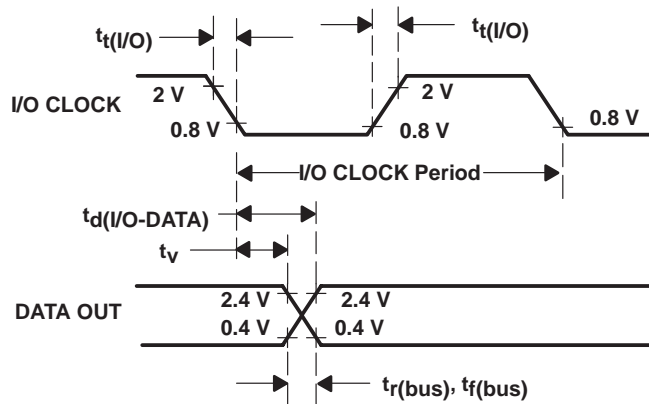

Figure 7. I/O CLOCK and DATA OUT Voltage Waveforms
10. I/O CLOCK period = $1 / (\text{I/O CLOCK frequency})$ (see Figure 7).